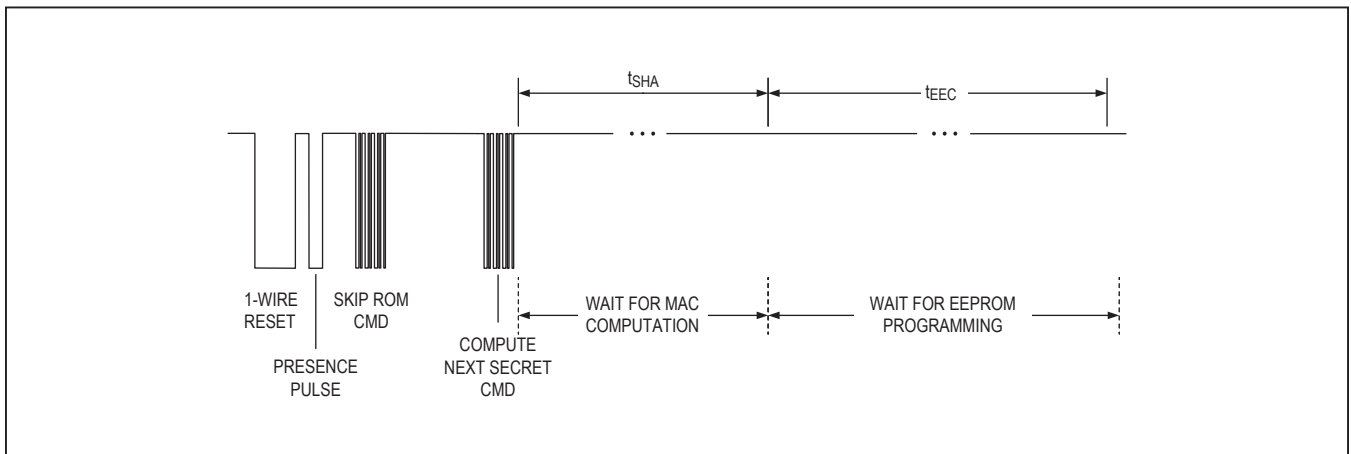

Figure 11. Compute Next Secret Function Command
**Compute Next Secret Without ROM ID [30h].** This command initiates a SHA-1 computation of the MAC and uses a portion of the resulting MAC as the next or new secret. The hash operation is performed with the current 64-bit secret and the 64-bit challenge. Logical 1s are loaded in place of the ROM ID. 64 bits of the output MAC are used as the new secret value. The host must allow  $t_{SHA}$  after issuing this command for the SHA calculation to complete, then wait  $t_{EEC}$  for the DS2784 to write the new secret value to EEPROM. See Figure 11 for command timing.
**Compute Next Secret With ROM ID [33h].** This command initiates a SHA-1 computation of the MAC and uses a portion of the resulting MAC as the next or new secret. The hash operation is performed with the current 64-bit secret, the 64-bit ROM ID and the 64-bit challenge. 64 bits of the output MAC are used as the new secret value. The host must allow  $t_{SHA}$  after issuing this command for the SHA calculation to complete, then wait  $t_{EEC}$  for the DS2784 to write the new secret value to EEPROM. See Figure 11 for command timing.